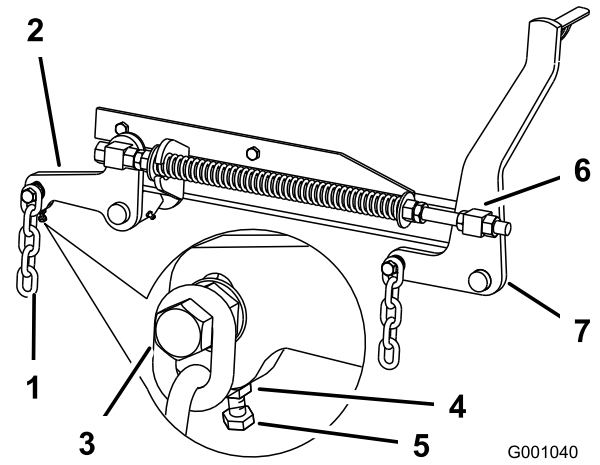

Figure 75
7. If the measurements at positions **B** or **C** are not correct, loosen the bolt attaching the rear chain to the rear-support arm (Figure 75).
8. Loosen the jam nut under the rear-support arm and adjust the adjustment bolt to get a measurement of 7.9 to 8.3 cm (3-1/8 to 3-1/4 inches) (Figure 75).
7. Loosen the front swivel jam nuts, at the front of the right and left swivels, approximately a 13 mm (1/2 inch) (Figure 75).
8. Adjust the lift nuts on both the left and the right side of the machine to achieve 6 to 10 mm (1/4 to 3/8 inch) lower in front at **A** than in the rear at **B** (Figure 75).